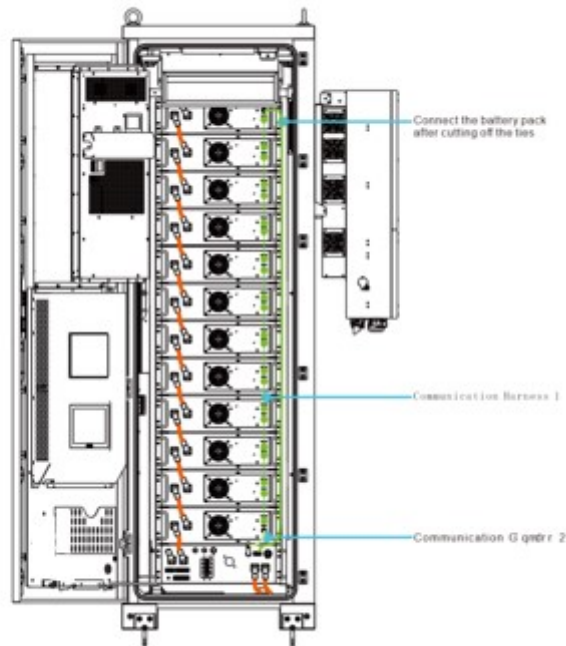

Fig. 4-22 Connection Harnesses
Step2: Take 1PCS of Power Harness 2 and connect it to the battery pack and HV box as shown in Figure 4-22, the cables need to be installed in place, when you hear a “click”, it will be installed in place.